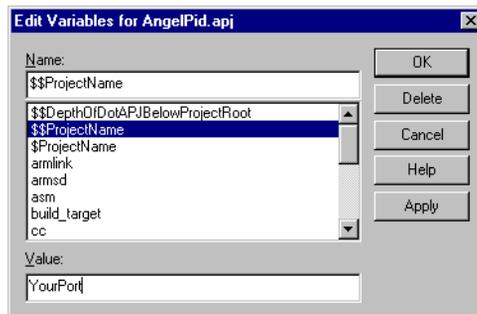

Figure 13-6 Edit variables
- In your working copy of the Angel directory, select **Edit variables for AngelPid.apj** from the **Project** menu. The Edit Variable dialog is displayed (Figure 13-6).